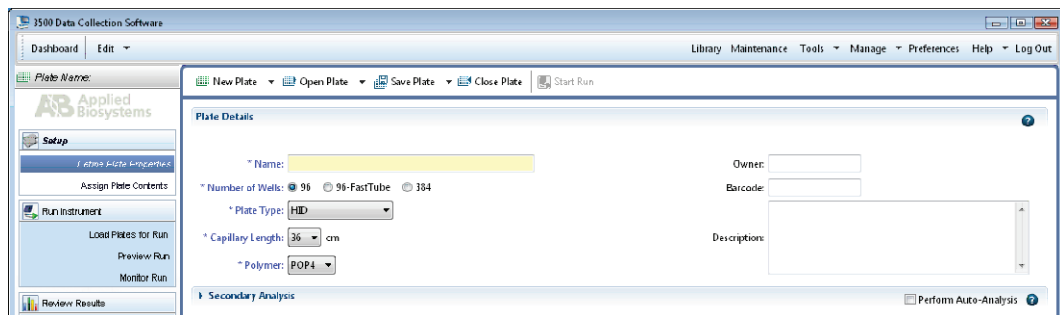

Figure 8. Defining plate properties.
9. Assign a descriptive plate name. Select the plate type "HID" from the drop-down menu (Figure 8).